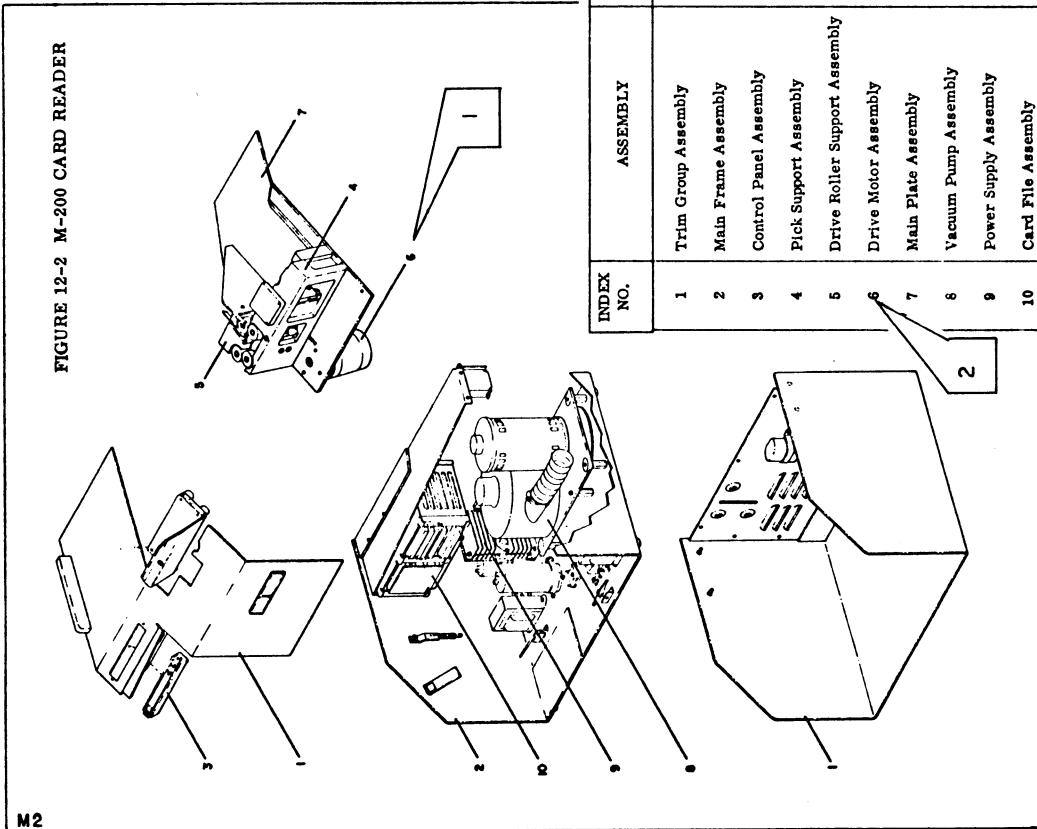

FIGURE 12-2 M-200 CARD READER
The unit is divided into ten significant assemblies (refer to figure 12-2), each illustrated, and provided with a parts listing keyed to the illustrations. The assembly parts breakdown illustrations and associated parts lists identify and describe all parts of the 115 VAC 60 Hz and the 230 VAC 50 Hz models of the Card Reader. Most parts are common to both models, when a part is common only to the 50 Hz models, it is listed immediately after the equivalent part for the 60 Hz model. In the MAIN FRAME assembly breakdown, for example, (Figure 12-4), under index #16, two circuit breakers are listed for the same index number.
- 1) Refer to Figure 12-2 and locate the index number of the major assembly from which the part was removed.
- 2) In the major assembly listing of Figure 12-2 use the index number to locate the figure number of the parts breakdown illustration for that assembly.
- ① In Figure 12-2, locate index number of major assembly from which part was removed.
- ② In Figure 12-2, use index number of major assembly to find figure number of major assembly parts breakdown illustration.
- ③ In major assembly parts breakdown illustration, locate index number of part.
- ④ In the illustration parts list, use index number of part to find part number, description and quantity per unit.